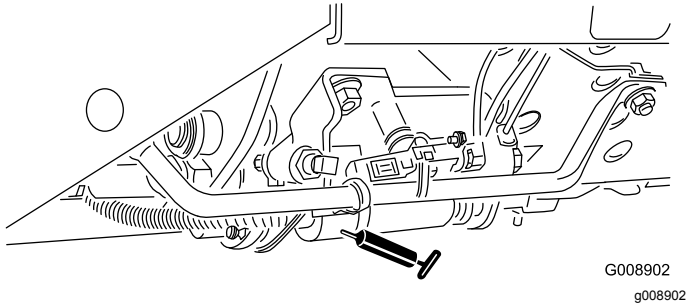

Figure 57
- Mow/transport slide (Figure 57)